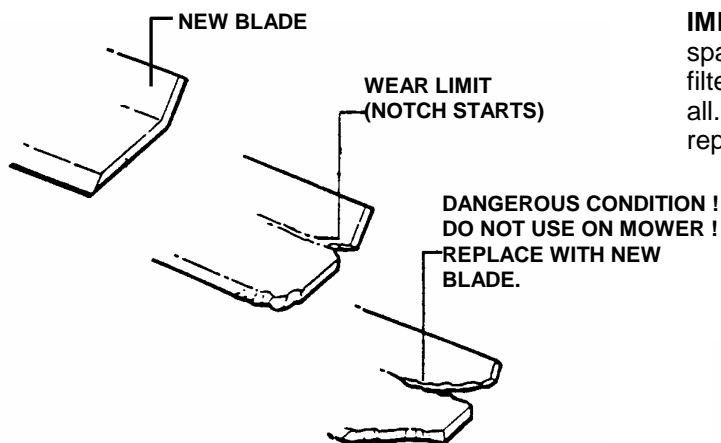

FIGURE 4.1
1. Inspect blade frequently for signs of excessive wear or damage. See Figure 4.1.
2. Replace the blade if it is badly chipped, bent, noticeably out of balance or has cracks or notch in either tip. See Figure 4.1 & 4.1A. Replace with new blade.
6. Reinstall blade. See Figure 4.1. Check torque of blade retaining cap screw. Recommended torque should be 30 to 40 ft. lbs.